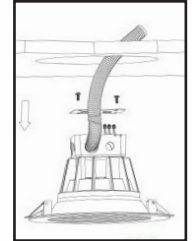

FIG. 3
4. Remove the Junction Box Screws holding the Junction Box Cover. Pass the supply wire(s) through the appropriate knockout hole on Junction Box. Make the electrical connections to fit inside Junction Box following the ELECTRICAL CONNECTIONS. Make sure all connections are secure, tuck all wires inside Junction Box and reinstall Junction Box Cover being Junction Box Screws. (FIG. 3)